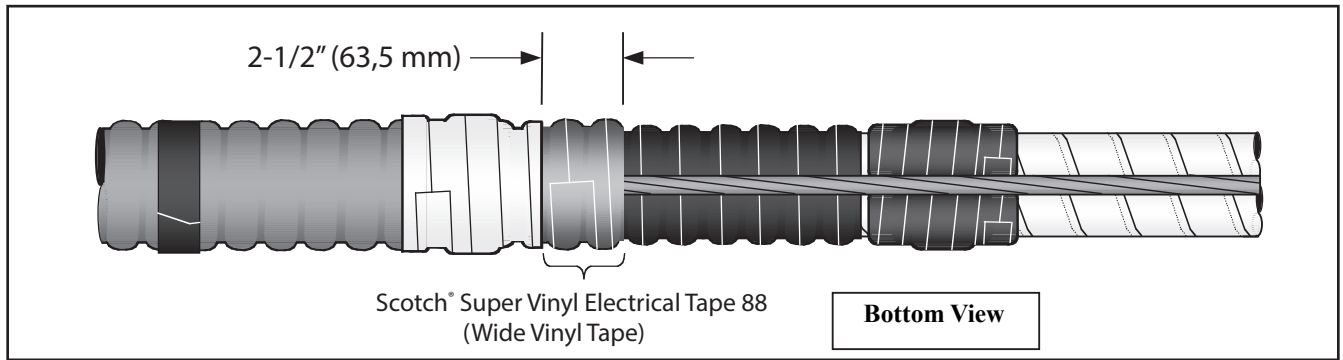

Figure 5
- 3.8 Bind cable ground wire with four half-lapped layers of Scotch® Super Vinyl Electrical Tape 88 (wide vinyl tape) (Figure 5). Limit width of tape wrapping to approximately 2-1/2" (63,5 mm).